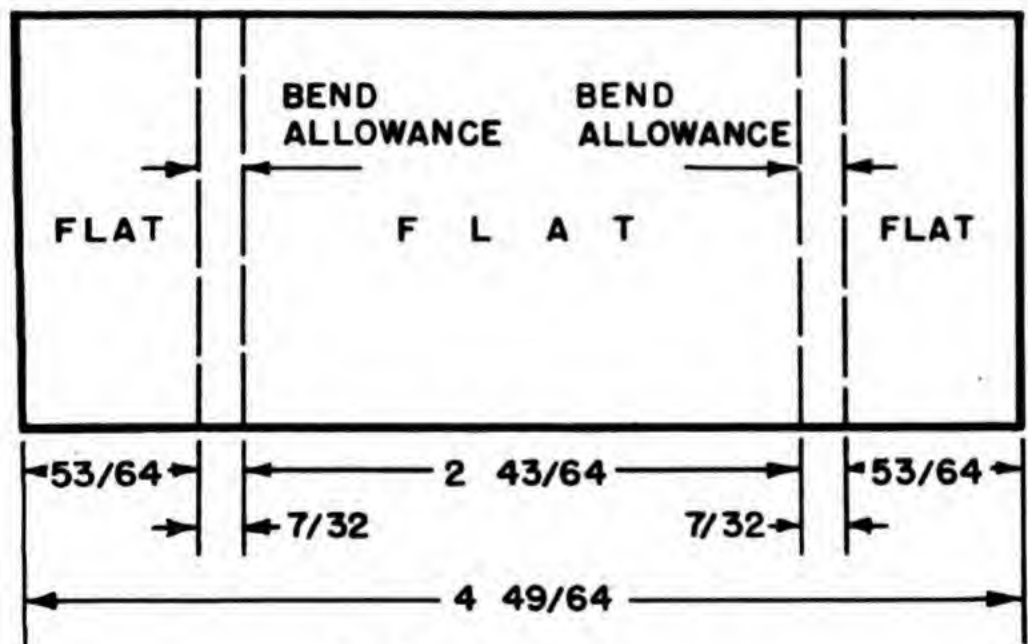

Figure 7-13.—Setback layout.
4. Make the layout as shown in figure 7-13.